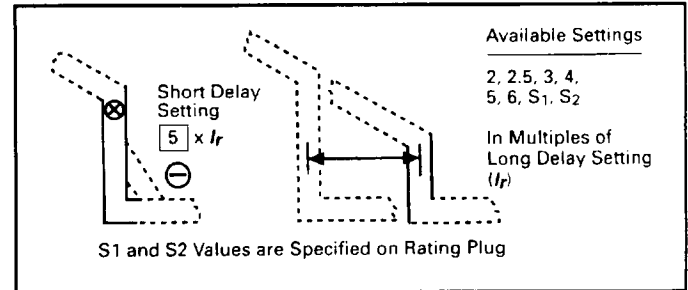

Fig. 8.3 Short Delay Current Settings
There are eight (8) available Short Delay "Pick-up" Current Settings, as illustrated in Fig. 8.3. Six settings are in the range from 2 to 6 times I_r and the other two settings are "S1" or "S2" times I_r . (REMEMBER: I_r is the Long Delay Current Setting). The values that "S1" and "S2" have depend upon the type of circuit breaker, and are specified both on the rating plug label (see Fig. 4) and on the applicable (LS) Time-Current Curve referenced in Section 6.